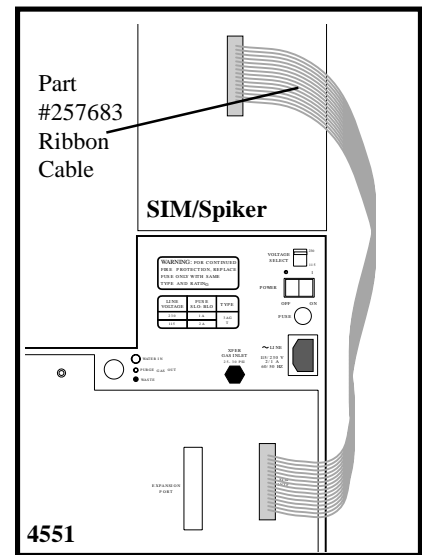

Figure 5.3. SIM Interface
3. Interface the SIM/Spiker option to the 4551 by plugging one end of the provided ribbon cable (Part #257683) into the Model 4551 back panel and the other end into the SIM/Spiker back panel (see Figure 5.3).